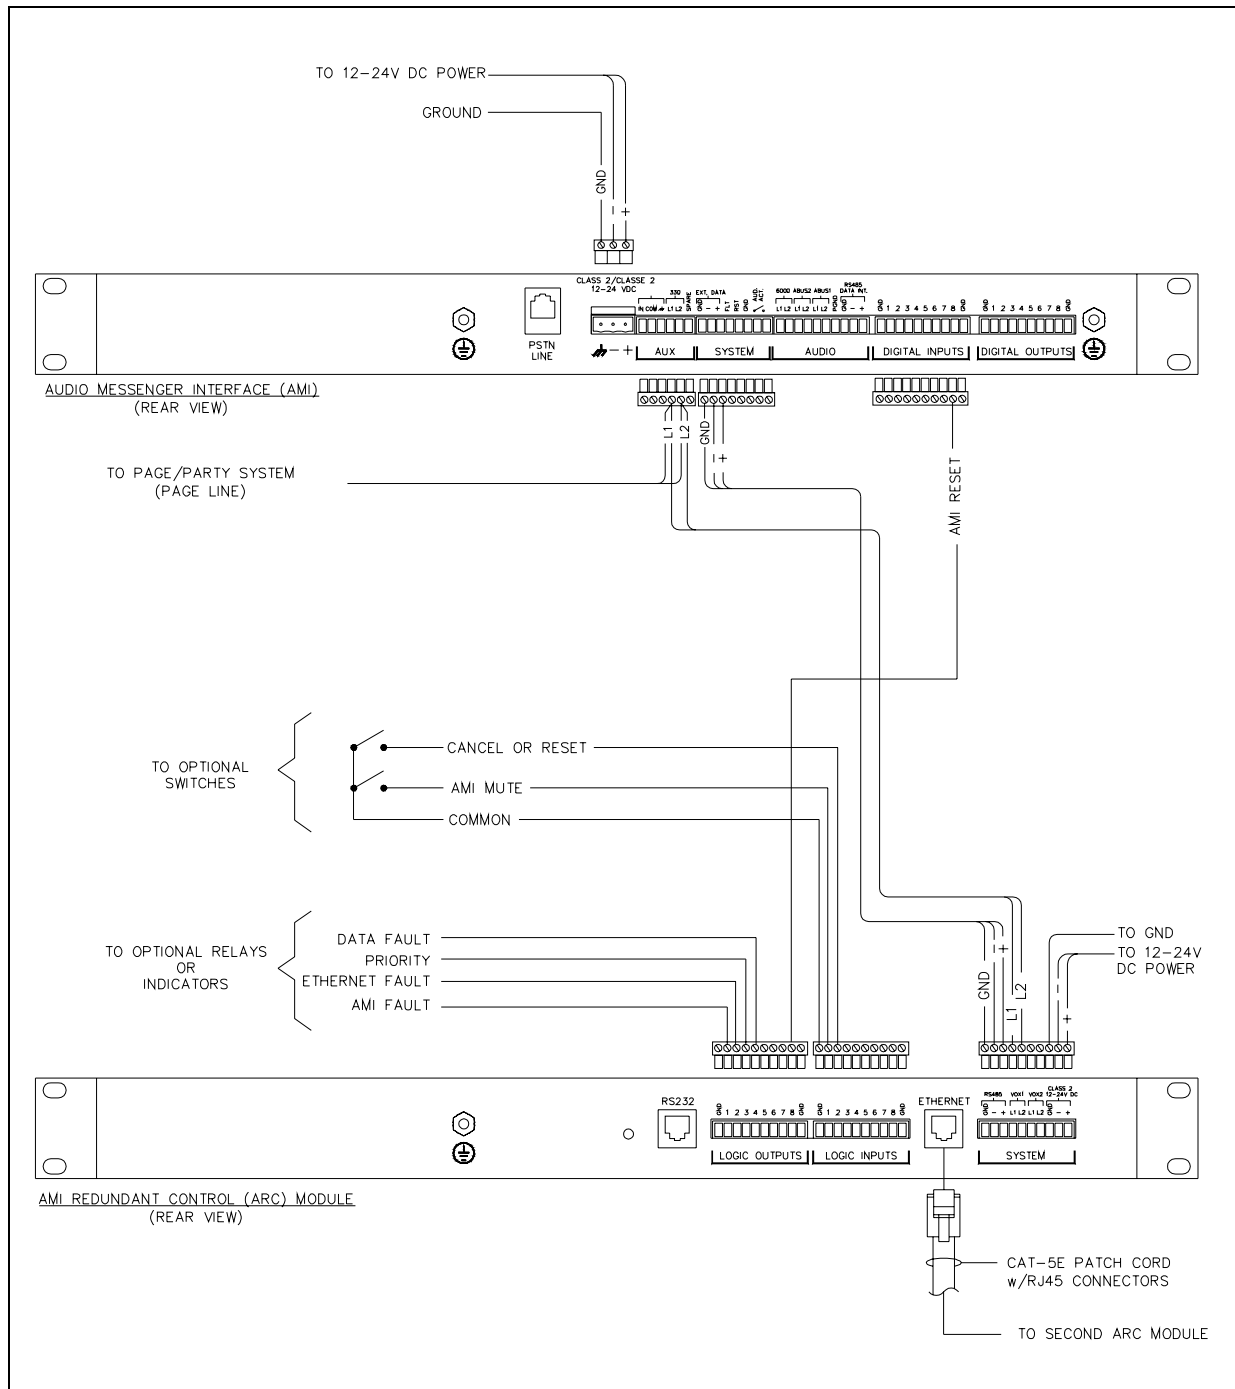

Figure 6. ARC and the 100 Series AMI Connection Diagram
Refer to Figure 6 for a typical connection diagram between the ARC and the AMI.
- Connect the RS-485 +, -, and GND terminals to the EXT DATA terminals on the AMI. Observe (-) and (+) polarity when connecting the data line. Refer to Figure 6.
- VOX 1** The VOX 1 terminals are for sampling the audio output of the AMI. When the AMI is playing a message, these terminals verify that audio is actually being generated from the AMI. Connect the VOX 1 terminals to either the 600-ohm or 33-ohm audio output of the AMI using a twisted pair cable. Refer to Figure 6. (33-ohm audio is shown.)
- 12-24V DC** The 12–24 V dc terminals are used to connect power to the unit. As labeled, the ARC can operate from 12 to 24 V dc. Power the AMI from the same voltage as the ARC. Observe (-) and (+) polarity when connecting the power. Connect the GND terminal to earth ground. Refer to Figure 6.